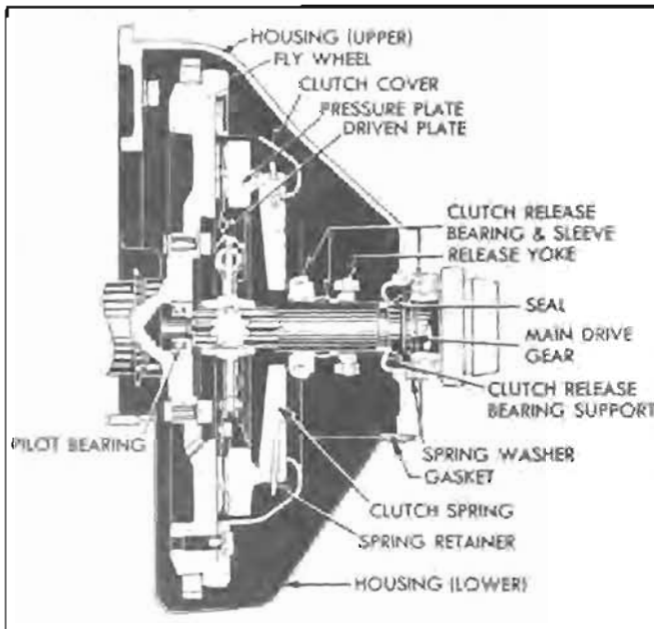

Figure 4-1—Clutch and Flywheel Assembly
cover fit over the waves a short distance from the outer edge of clutch spring to transmit drive to the clutch spring. Twelve lugs cast on the pressure plate engage waves at the outer edge of clutch spring to take the pressure as well as drive from the spring. The pressure plate and clutch spring are attached to the clutch cover by six spring retainers which hook over ears on inner edge of cover, pass around outer edge of clutch spring and through holes in lugs on pressure plate. See figure 4-1.
When the clutch is in the engaged position, the clutch cover compresses the clutch spring, causing it to exert heavy pressure against the pressure plate. The pressure plate clamps the driven plate against the flywheel with sufficient force to transmit the power of the engine without slippage. The power drive is from flywheel to clutch cover, cover to clutch spring, spring to pressure plate, and from pressure plate and flywheel to driven plate. See figure 4-1.
is piloted by a ball bearing pressed into a recess in rear end of engine crankshaft. See figure 4-1.
The clutch release bearing and sleeve assembly is mounted upon a bearing support which encircles the transmission main drive gear. The bearing support is flared at the rear end to seat in flywheel housing and is held in place by a spring washer and the outer race of transmission main drive gear bearing. See figure 4-1.
1. Remove flywheel lower housing. See figure 4-1.